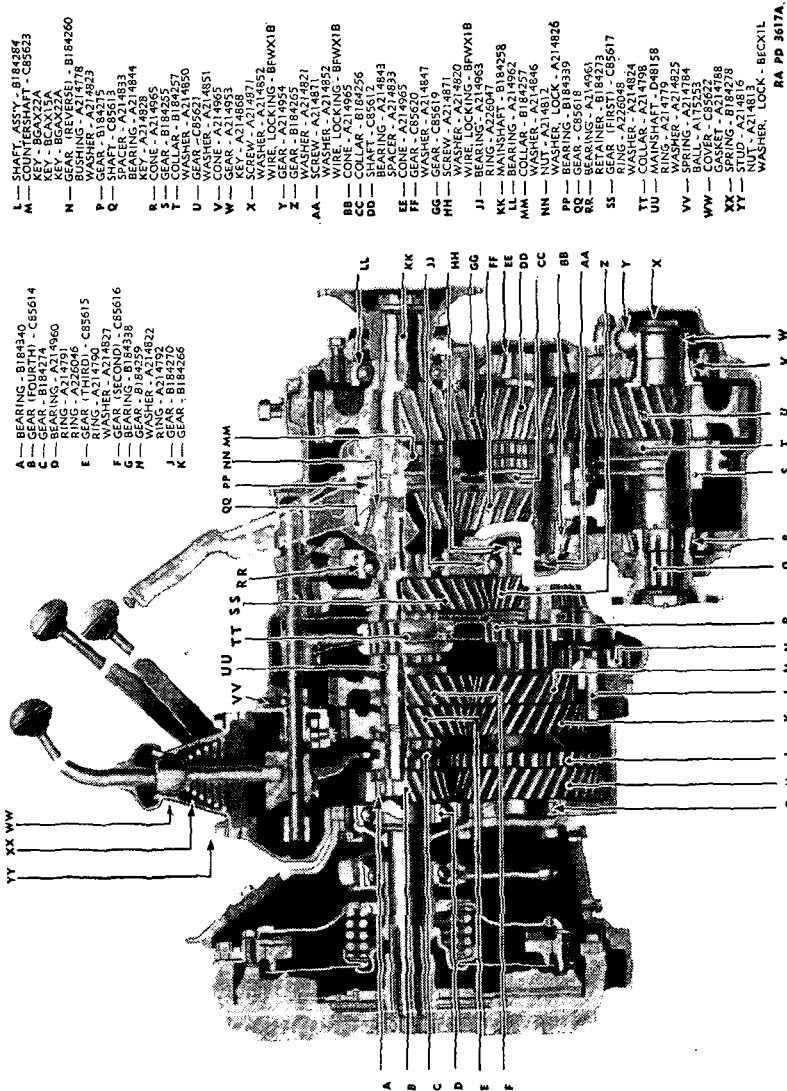

FIGURE 78.—Transmission assembly, sectionalized.
b. Operation (figs. 78, 79, 81, and 82).—Power is received by the transmission from the engine, through the clutch, and then through the transmission main drive gear, whose splined shaft engages with the clutch splined hub. Power then flows through the transmission,